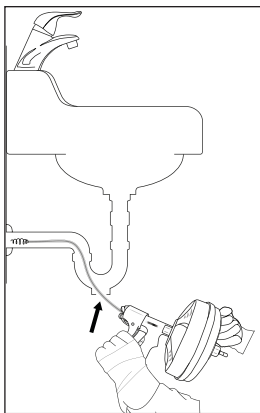

Fig. 1
- For other washbasins, a cleaning plug or an odour trap may need to be removed (see Fig. 1). Be sure to place a container under the cleaning opening or under the odour trap to catch any leaking water.